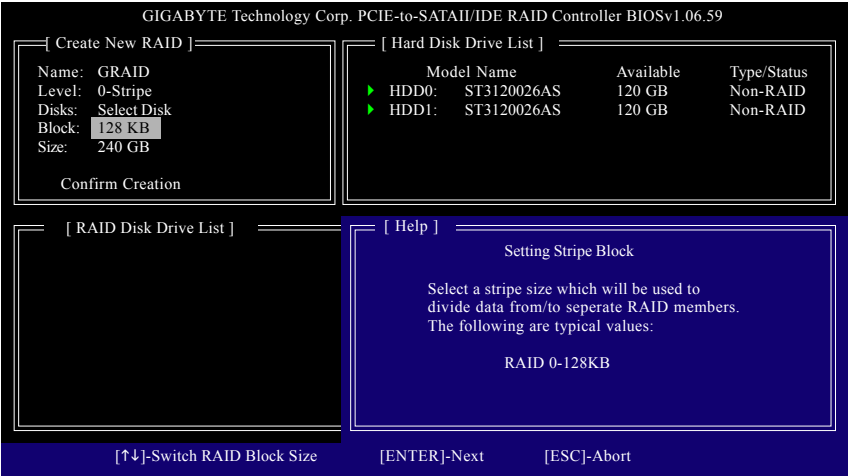

Figure 7
4. Set Block Size (RAID 0 only): Under the **Block** item, use the up or down arrow key to select the stripe block size (Figure 7), ranging from 4 KB to 128 KB. Press <Enter>.